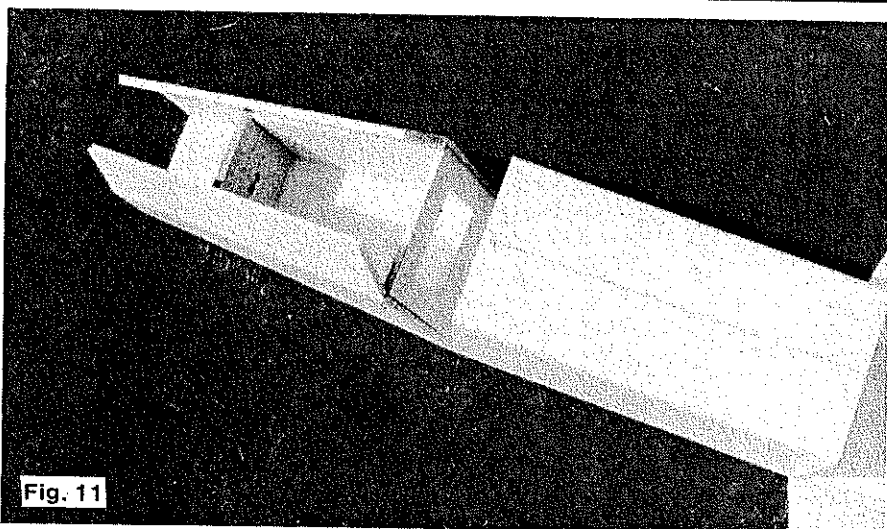

Fig. 11
8) Install bulkhead #1 in position. Note: The fuselage is upside down on the work table; be sure to install the bulkhead so that the end marked *top* will later be on top of the fuselage. Fig. 11 shows completion to this point.